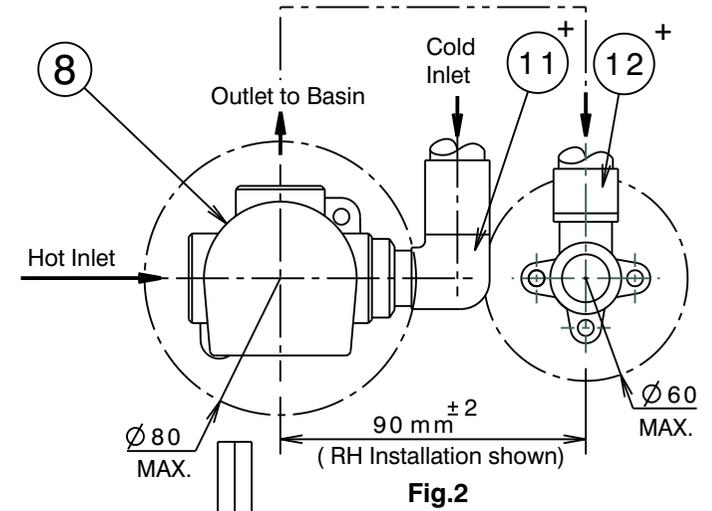

Fig. 2
**Note :** A suitable elbow fitting (11+) should be fitted to the inlet connection adjacent to the basin outlet (17) (Fig.2).
All care should be taken that the wall elbow (12+) is mounted accurately in line with, and at a distance of 90mm±2 from the adjacent mixer body (8) and that it is square to the wall/tile face (Fig.2). Connect the mixer body outlet to the wall elbow (12+). **Note:** Pipework and fittings are not supplied.